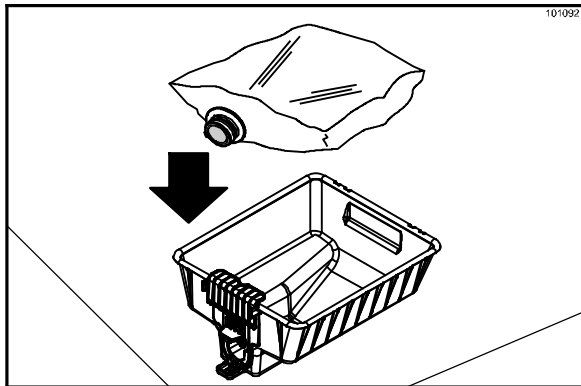

Figure 28
- Place the bag of product into the base of the product bin with the **spout facing down**. (See Figure 28.)